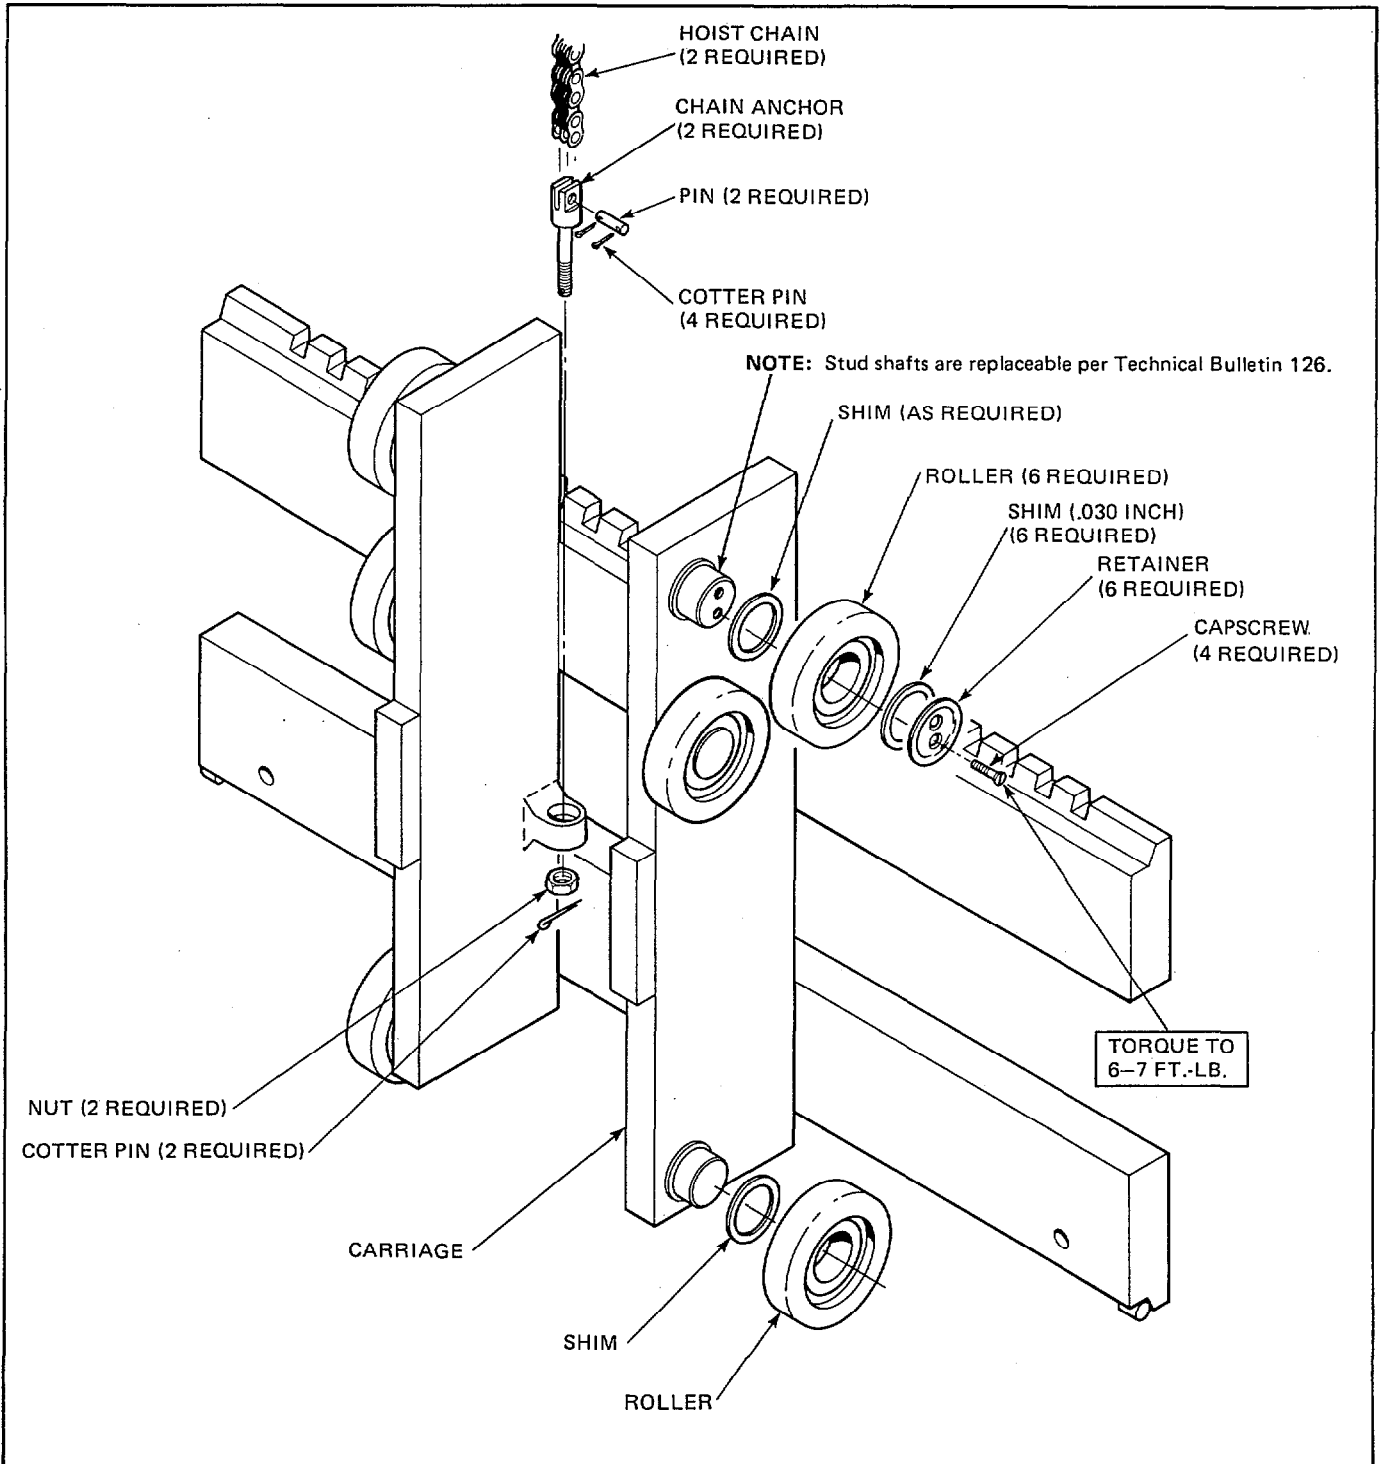

Figure 22. The Carriage Assembly
The carriage, shown in Figure 22, is the structure to which hook-type forks or the attachment is attached. The carriage travels within the channels of the mast inner upright on six, shim-adjustable load rollers. The two upper load rollers are secured to their stub shafts by keepers; the four lower load rollers are held in place by the inner channel when the carriage is assembled onto the mast. All six load rollers are interchangeable. A pair of adjustable chain anchors are used to connect the carriage chains to the carriage.
- Remove the cotter pins and pin retaining the chains to the chain anchor on the carriage weldment. See Figure 22.
- Assemble the load rollers onto their stub shafts using an appropriate number of shims. See Figure 22. The shims should be installed to provide a total clearance no looser than 0.030 inch at the tightest point throughout the travel of the carriage. Refer to Section 5.3-12 for load roller shimming.